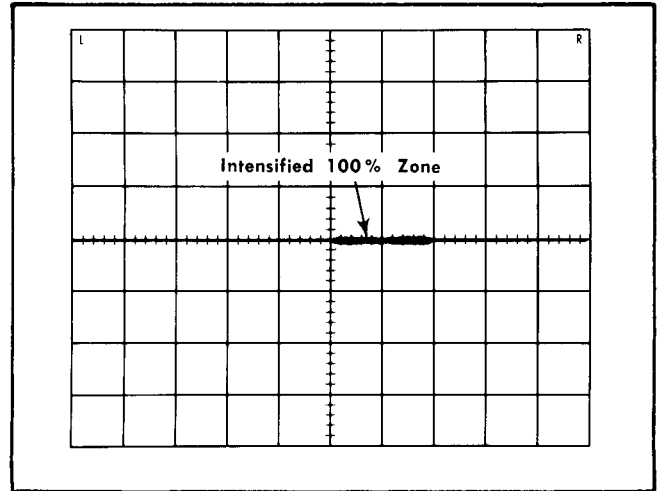

Fig. 6-33. Typical CRT display of Digital Readout Intensification with sampling Plug-In Units.
- b. Check—For intensified portion of the sweep (Fig. 6-33).